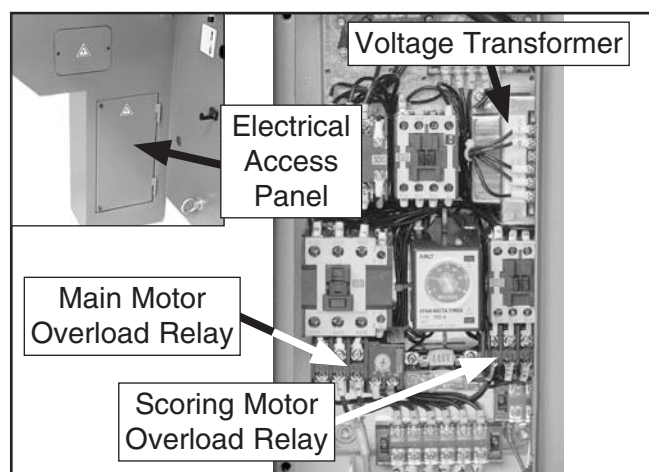

Figure 7. Inside view of the control panel.
2. Open the electrical panel and locate the voltage transformer shown in **Figure 7**.